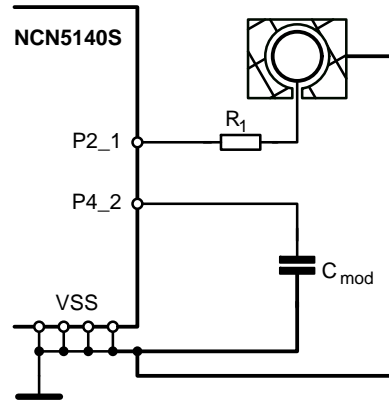
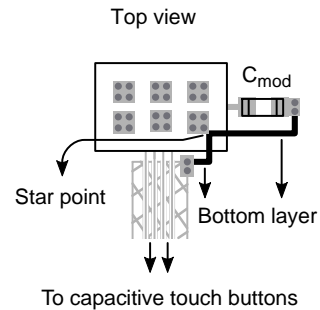

Figure 17. Schematic Representation of connecting the Different Grounds at a Single Star Point
Figure 18. Capacitive Touch related Grounds Star Connected under the Chip
- Make sure that the capacitive sensing ground planes are all connected to a central point (star topology). This includes the hatched ground planes surrounding the buttons and the ground connection of the  $C_{MOD}$  integrating capacitor. Figure 17 and Figure 18 show how this can be done for the NCN5140S.
The ground connection of the  $C_{MOD}$  capacitor and the ground hatches must first be routed to the four bottom ground pads of the NCN5140S as shown in Figure 18. Then everything can be connected to the rest of the ground copper. When using a top and bottom hatch, only one of the two is routed to the central pads. Both hatches are via stitched together.